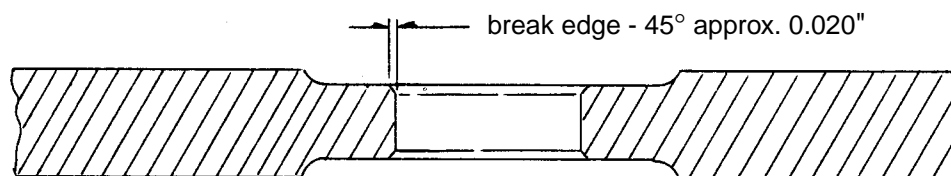

Figure 2 - Breaking of Housing Bore Edge
- Step 2. After machining to full size, break the edges of the housing bore approximately as shown in Figure 2.